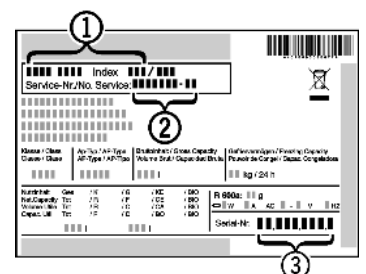

Fig. 25
- Read the appliance designation *Fig. 25 (1)*, service No. *Fig. 25 (2)* and serial No. *Fig. 25 (3)* off the type plate located inside the appliance on the left-hand side.
- Notify the customer service, specifying the fault, appliance designation *Fig. 25 (1)*, service No. *Fig. 25 (2)* and serial No. *Fig. 25 (3)*.